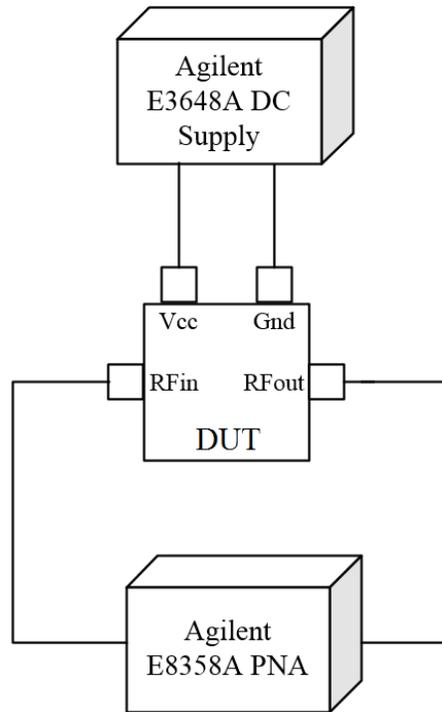

Figure 1: Vector Network Analyzer experiment setup diagram
1. Set up equipments as shown in Figure 1. Make sure the DC power source shows “OUTPUT OFF” during your set up. **Important:** Set the *current limit* according to the value you found in question 1, *pre-lab*. This is to make sure the DC supplier will never send out a current that is high enough to destroy the PA. If you couldn’t figure it out, ask your TA. Turn the DC source on by pressing “Output On/Off” before measuring the amplifier so that we measure an operating amplifier, not an unbiased one.
- (a) Set up the PA as in Figure 1.